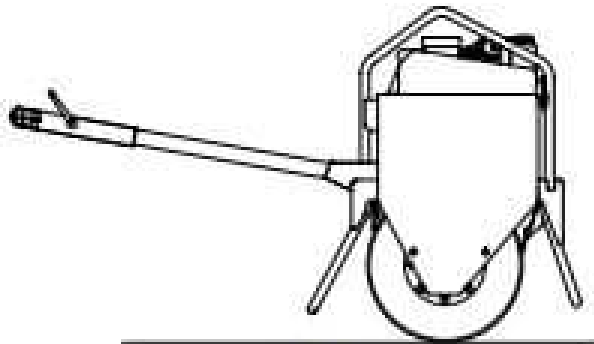

Fig 7.
- 2 Ensure that the machine is parked so that the hydraulic tank is level ➔ Fig 7. \(D 15\).